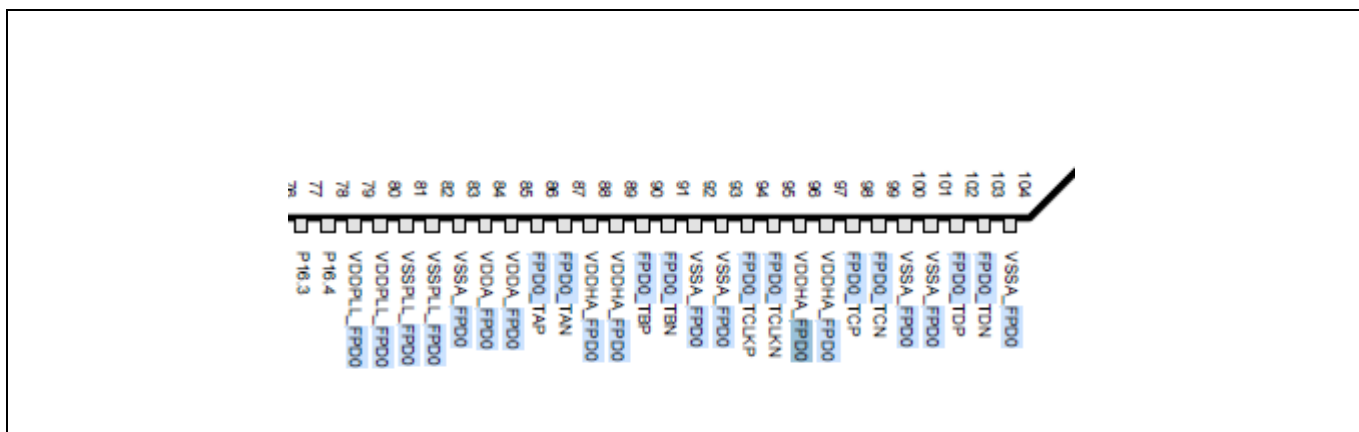

Figure 1 TRAVEO™ T2G cluster series (TEQFP 208) FPD-Link pins
The FPD-Link interface for TRAVEO™ T2G cluster MCUs spans pins 79 (83) through 104 (108) in the TEQFP 208 (TEQFP-216) packages. Within **Figure 1**, those pins shown with signal names are where the FPD-Link power, ground, and differential signals are present. This interface has three power domains:
All pins with a named “VSS” in **Figure 1** are device ground (VSS) which must be shorted together, preferably through short connections to a low-impedance ground plane.
The supply for the PLL (used to serialize the video data and clock signal) connects to pins 79 and 80 in Figure 1. While both the FPD-Link core supply and serializer PLL supplies are specified to operate over the same 1.15 V, they must not be directly shorted together and connected to the same power source. If they are, the switching noise on the LVDS driver supply couples into the PLL supply causing increased jitter. Likewise, it is recommended to keep the PLL supply separate from that of any attached display to prevent display-induced noise from coupling into the circuits.